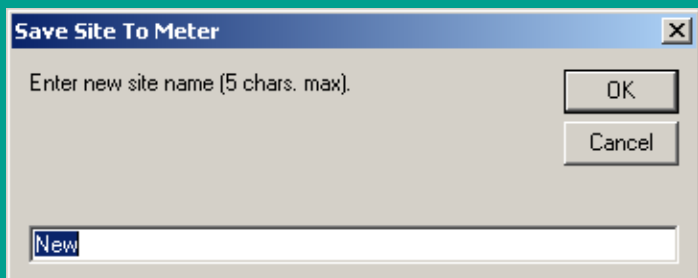

Figure 33: Site name entry window
2. A window opens similar to figure 33. Enter the desired name, and click [OK].